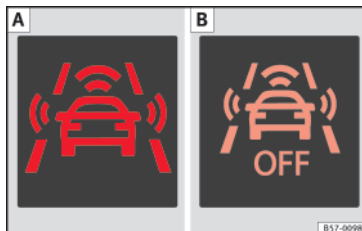

Fig. 161 On the instrument panel display: **A** Advance warning message. **B** Pedestrian Monitoring deactivated.
If the function detects a possible collision with a pedestrian, it warns the driver with an acoustic signal and a message on the dash panel display » **Fig. 161**.
- Switch distance warning on or off by deactivating the Front Assist function in the Easy Connect system using the **(CAR)** button and the **(Setup)** and **(Driver assistance)** function buttons » **Fig. 161** **B** **page 25**.
When the pedestrian protection pedestrian is switched off, the dash panel display shows a message indicating this » **Fig. 161** **B**.